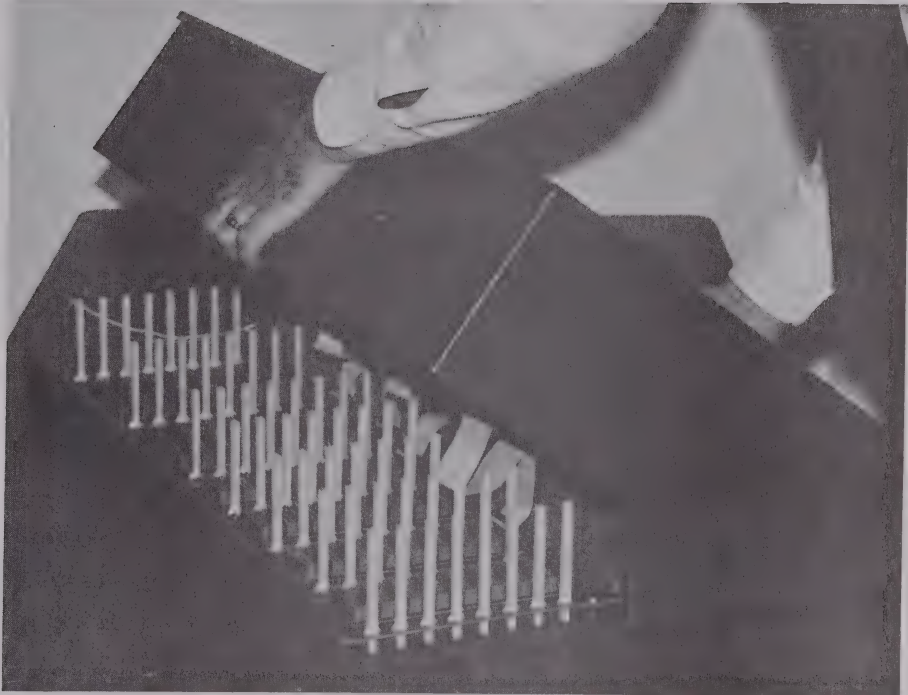
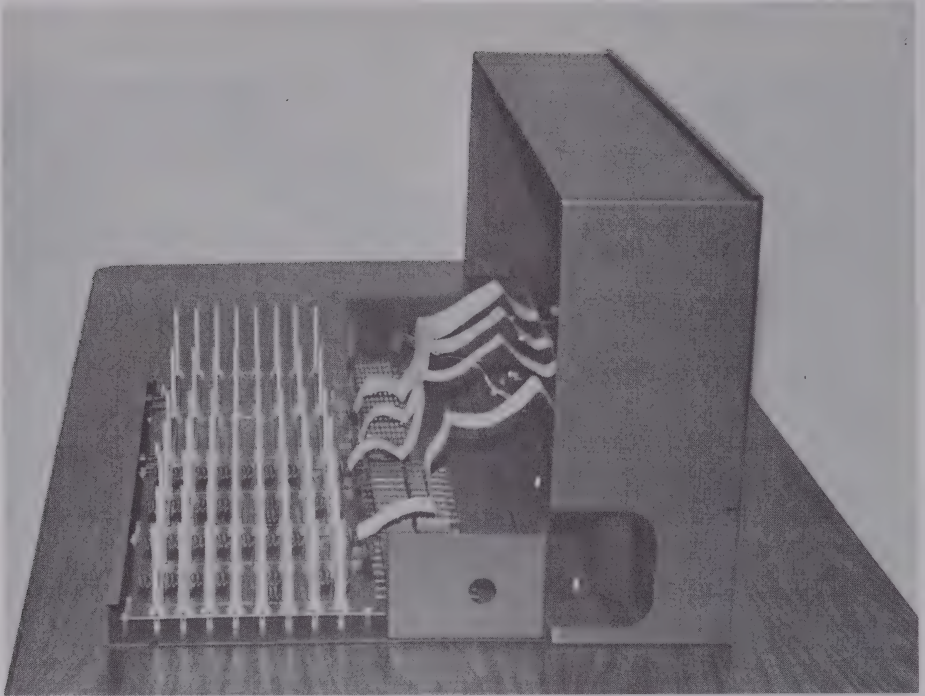

**Figure 2.3: Mounting the Powersense 830-Swinging
Figure 2.4: Front Case Assembly Resting on its Right Side
2) Grasp the case in the center of the left side of the unit and carefully swing the entire front case assembly up and to the right as shown in Figure 2.3. As you do so, look on the inside of the unit to locate the ribbon cables. Without forcing the cables loose, rest the front case assembly on its right side as shown in Figure 2.4. Depending upon your unit, three or four